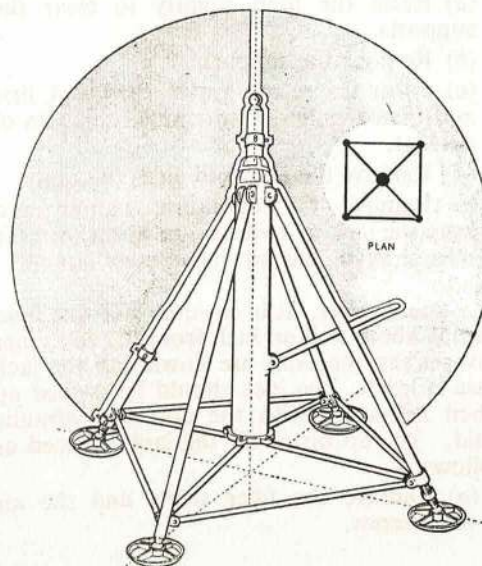

Fig. 5. FOUR LEGGED JACK
27. A four-legged jack (Fig. 5) is obtained by attaching an additional leg to the hydrau-